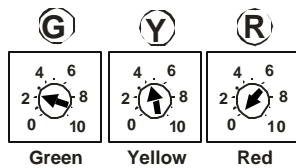
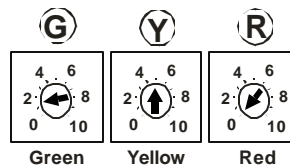

FIGURE 3
FIGURE 4
6. Remove the door from the Fi2000R module to expose the LED's. **NOTE:** The Fi2000R pot settings come preset from the factory for the Meanstreak / Marauder 1600, (Fig.3), for owners, with the Meanstreak 1500 please adjust the FI2000R to the base pot settings shown in (Fig. 4), prior to proceeding further. Verify the wire connections by, (1), turning the ignition on while watching the 3 LED's. They will all light up for a few seconds, and then go off. This is correct. If there are no lights visible, make sure the side stand is up, bike is in neutral, clutch is in and handlebar engine switch is set to run. If there are still no lights visible, re-check that all connectors are fully engaged and the ground wire is connected correctly. – Continued to Page 2.